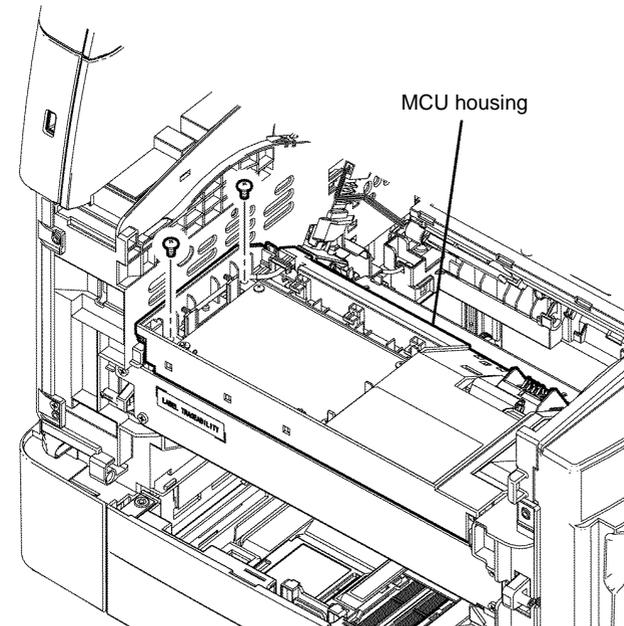

Figure 2 MCU housing location
4. Remove two screws (silver, M3, 6mm) that fix the MCU housing, Figure 2.